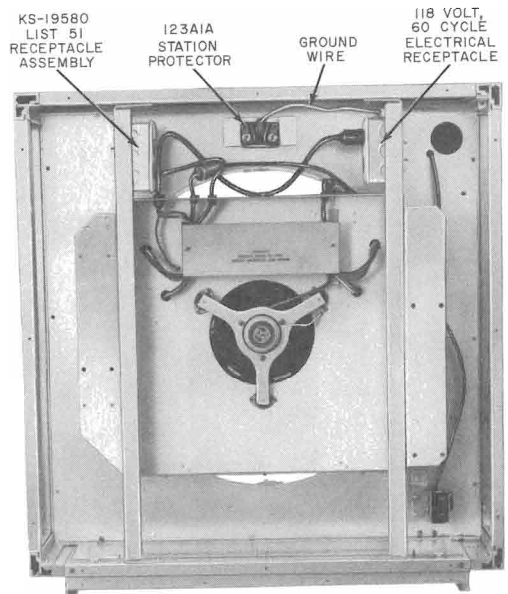

Fig. 8—KS-19425 Booth Ceiling Area (Older Model)
- Older models will have the protector mounted on a stationary plate (Fig. 8)